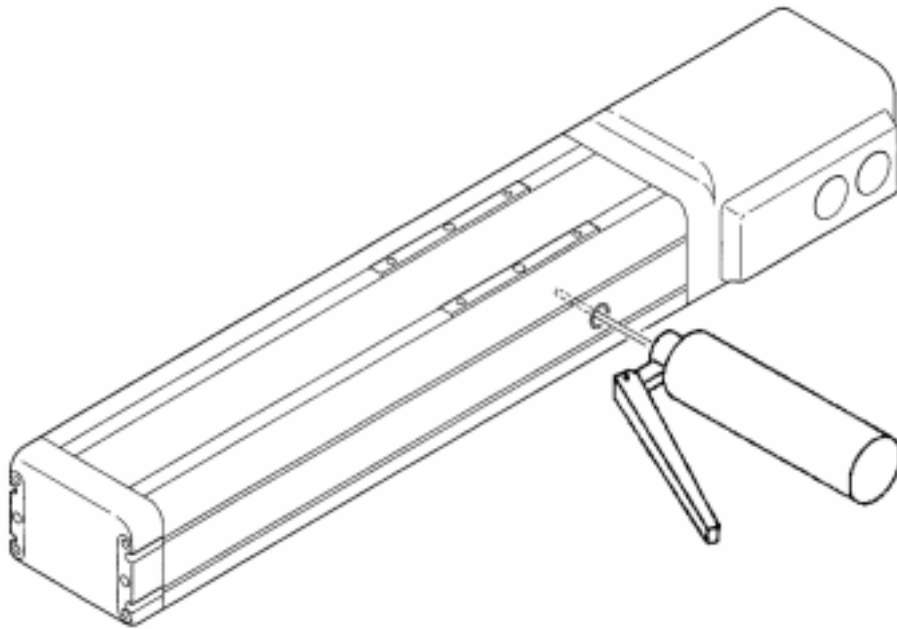

Figure 7-3. Greasing an M-Type Module
3. Locate the grease nipple inside the frame, and deposit approximately 10 cc of grease with a grease gun (Figure 7-3).